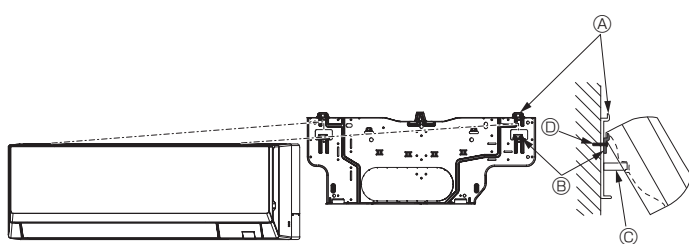

Fig. 3-14
- When the indoor unit cannot be hung and lifted up with the regular hook (the dimension of 2.1. ⓧ (the clearance between the ceiling and the unit) is 75 mm, 2-15/16 in. or less), hang the unit on the lower hook for left piping. (Fig. 3-14)
(Fig. 3-14)